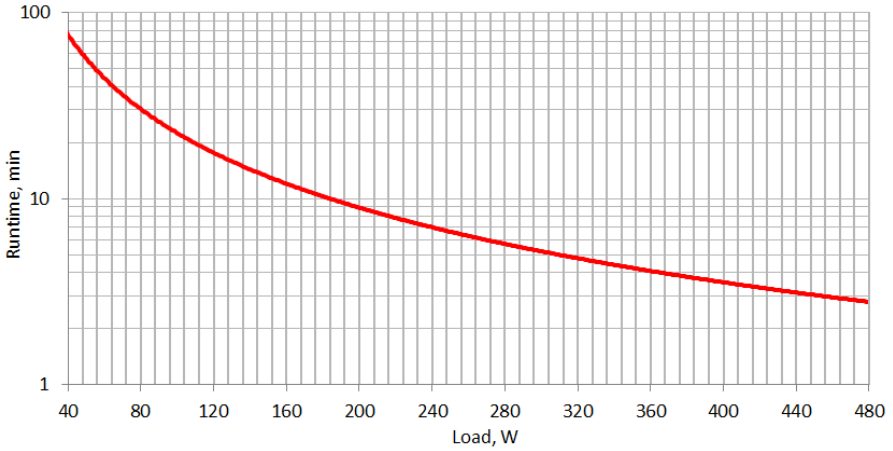

Figure 4. Runtime graph INFO800 / INFOLCD800
4. Check whether the discharge time corresponds to the values given in figures 4 to 10. If the discharge time decreases by more than 50%, replace the batteries.